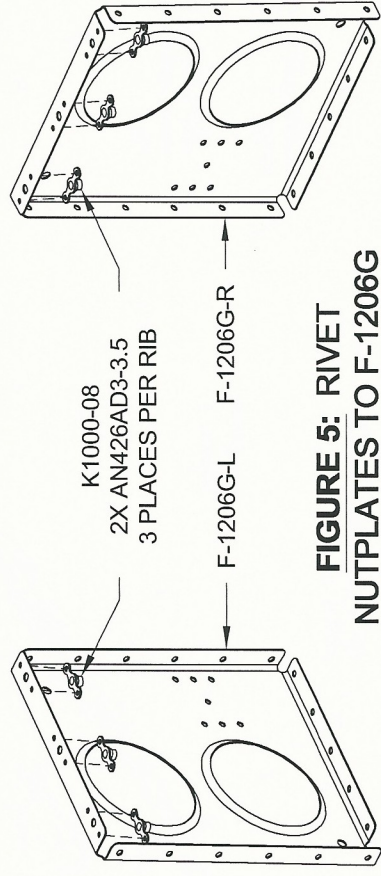

FIGURE 5: RIVET NUTPLATES TO F-1206G
Step 12: Dimple the nutplates called out in Figure 5 and the corresponding holes in the top flange of the F-1206G-L & -R Baggage Ribs.
Step 13: Rivet the nutplates called out in Figure 5 to the F-1206G-L & -R Baggage Ribs.